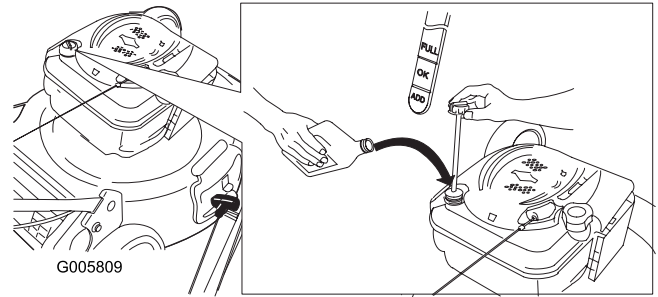

Figure 12
1. Remove the dipstick, wipe it clean, and fully install the dipstick (Figure 12).